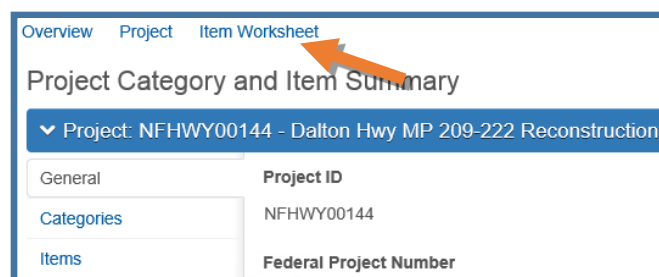

Figure 3.21
3. Select the **Item Worksheet** quick link at the top of the Project Category and Item component screen (*Figure 3.21*).